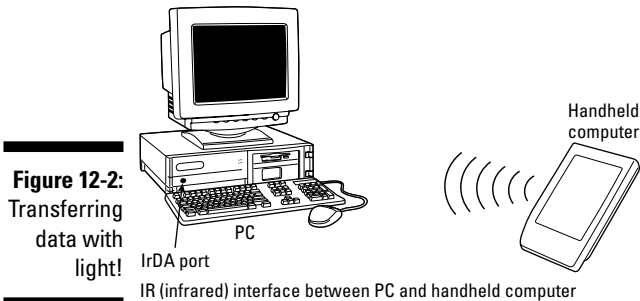

Figure 12-2:
Within each of these two groups, the functionality of PDA's differs greatly, but they are all capable of networking by connecting either directly to your PC to exchange data or through a network connection to other data networks such as the Internet. Many have an infrared (IR) device that allows you to print to a printer (or update internal databases) by aiming the device at a printer (or computer) — nifty, huh? Figure 12-2 shows how a PDA can network with a PC using infrared networking.